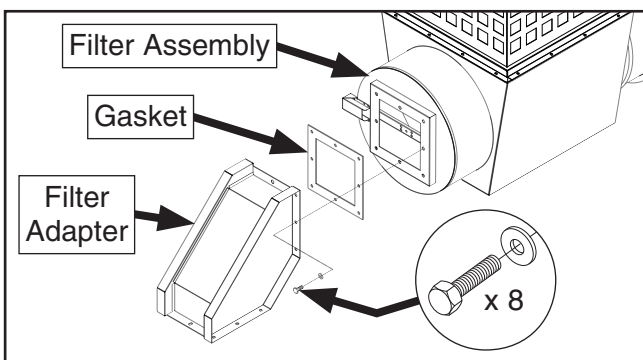

Figure 4. Attaching filter adapter to filter assembly (1 of 2 shown).
1. Attach each filter adapter to top of each filter assembly with (8) $\frac{5}{16}$ "-18 x 1" hex bolts, (8) $\frac{5}{16}$ " flat washers, and (1) filter adapter gasket (see **Figure 4**).